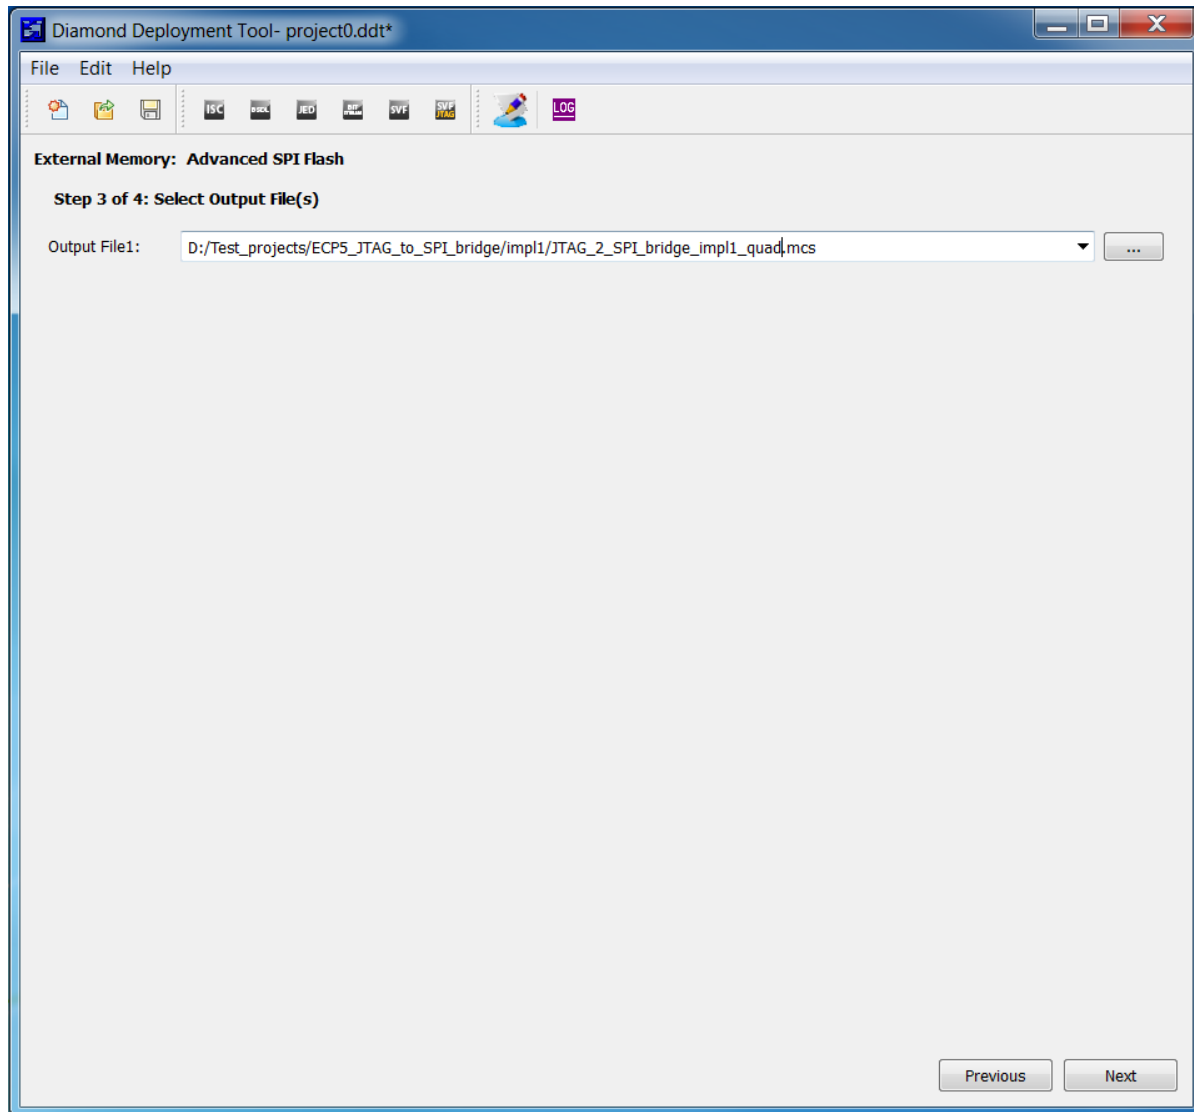

Figure 5.4. Step 3 of 4: Select Output File(s)
4. In **Step 3 of 4: Select Output File(s)**, shown in Figure 5.4, select the output file (*.mcs) in **Output File1** and click **Next**.